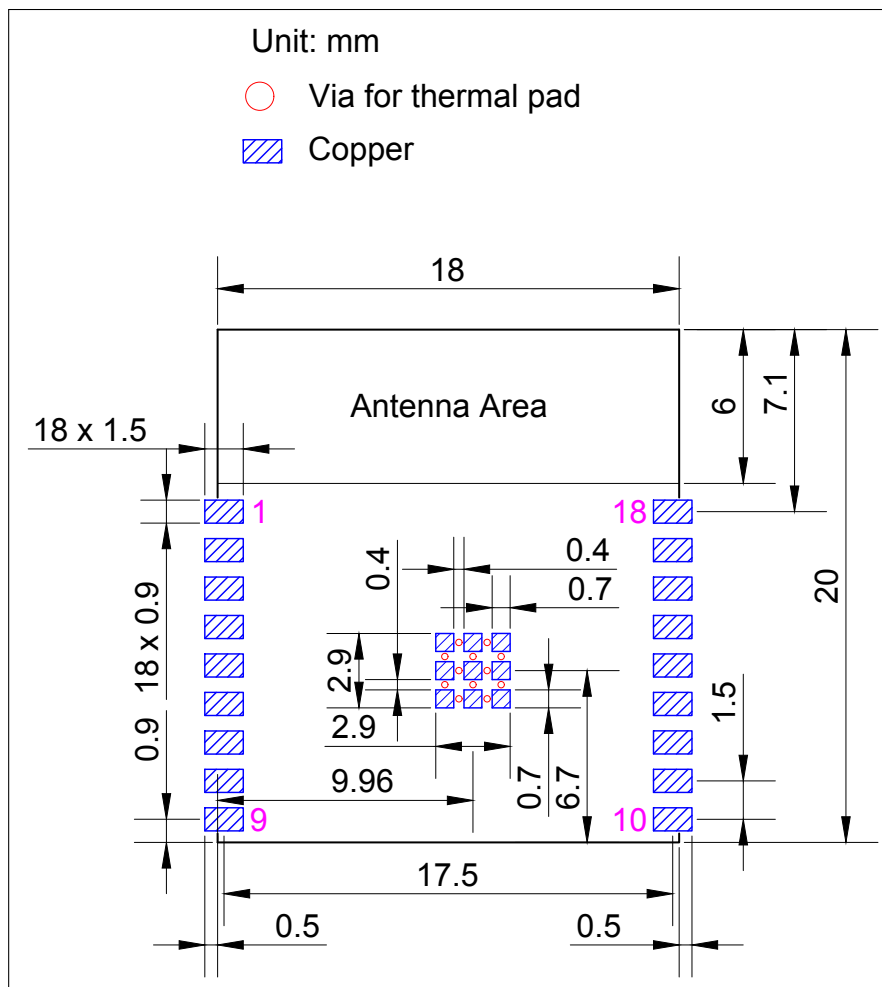

Figure 10: ESP32-C3-WROOM-02 Recommended PCB Land Pattern
- Figures for recommended PCB land patterns with all the dimensions needed for PCB design. See Figure 10 *ESP32-C3-WROOM-02 Recommended PCB Land Pattern* and Figure 11 *ESP32-C3-WROOM-02U Recommended PCB Land Pattern*.
- Source files of recommended PCB land patterns to measure dimensions not covered in Figure 10 and Figure 11. You can view the source files for ESP32-C3-WROOM-02 and ESP32-C3-WROOM-02U with Autodesk Viewer.